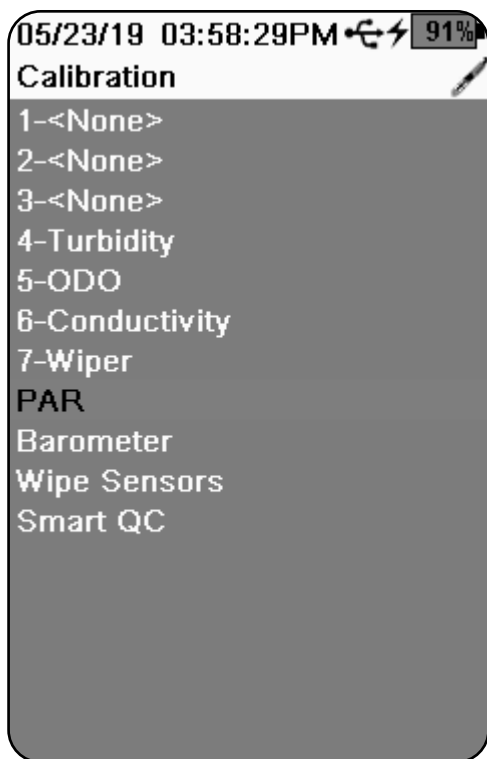
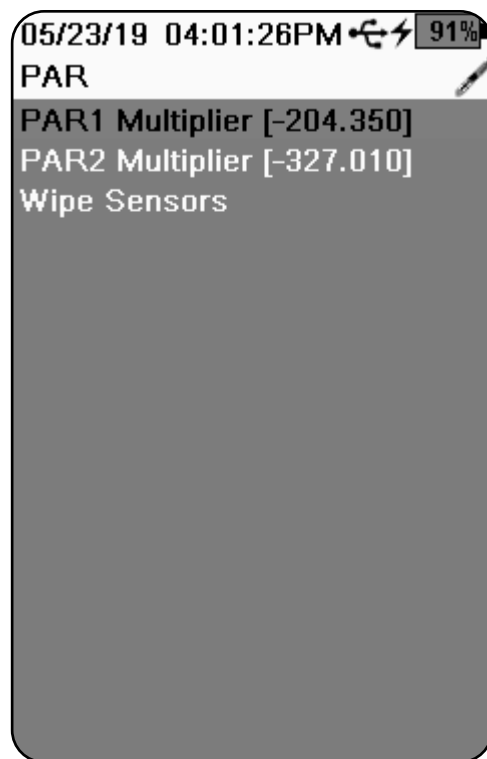

Figure 15 Select calibration, then PAR from the list of sensors
Figure 16 Enter the multipliers exactly as they are on the certificates
2. Using the Calibration Certificate supplied with your Li-Cor PAR sensor, you will now enter the multipliers into EXO Handheld Display. To do so first select **Calibration** and from the list of sensors displayed select PAR sensor. If successful you will see the screen shown in figure 15. From the Calibration Certificate you will use the In-Water multiplier that is listed under the Handheld Meters and Loggers section. You will enter the multipliers exactly as they are on the certificates in the fields shown for Channel 1 and Channel 2 shown in figure 16. If you are only using one PAR sensor, the default channel will be Channel 1. Leave the default value in Channel 2, which will be (1).